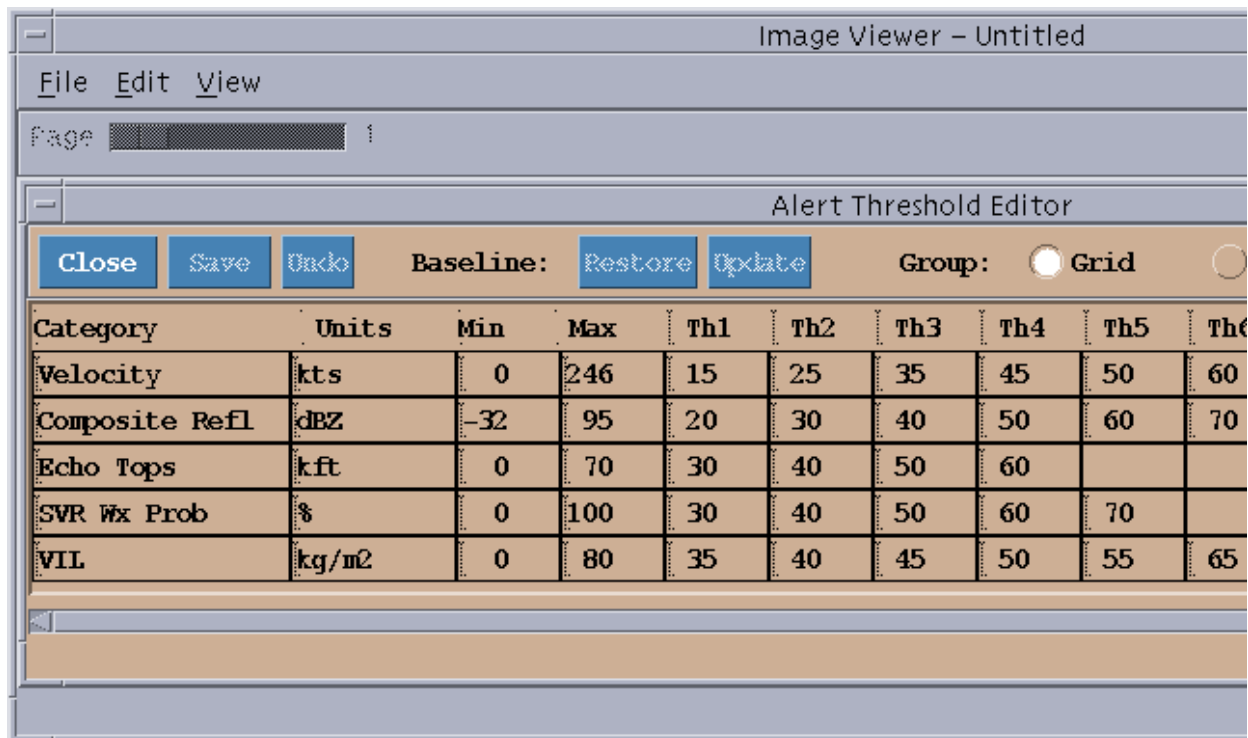

Figure 2 Image Viewer - Untitled Window
- Click the crosshair pointer inside the window to be captured. The *Snapshot* window will disappear and then reappear 8 seconds later. The message at the bottom of the *Snapshot* window will read *Snap succeeded* once the snapping process is complete. The *Image Viewer - Untitled* window (see Figure 2) will display the newly snapped image, and an *Image Viewer - Palette* window will also appear.